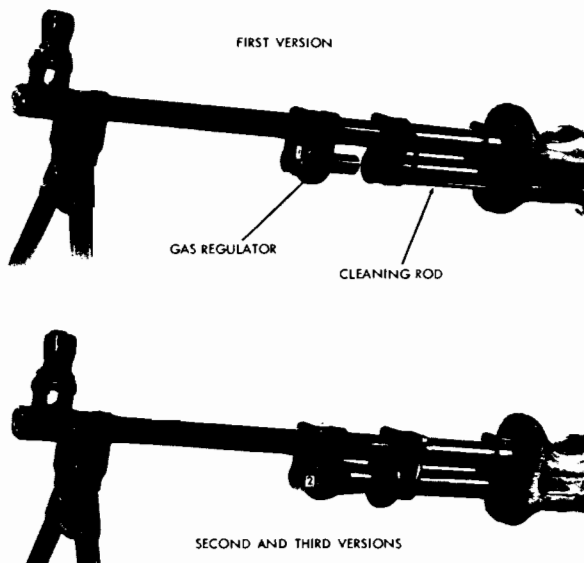

Figure 65. 7.62-mm Degtyarev squad light machinegun (RPD).
First version:	Cup-type gas piston, no dust covers; straight, reciprocating handle; right-hand windage knob (fig. 65).
- Second version: Plunger-type gas piston; no dust covers; straight, reciprocating operating handle; left-hand windage knob (fig. 65 and 66).